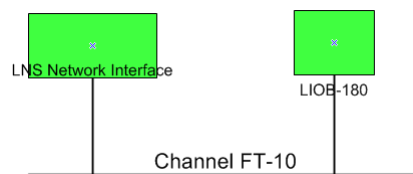

Figure 99: The L-IOB device has been added to the drawing
- Finally, you should get the device added to your drawing as depicted in Figure 99.
This Section describes how to replace a L-IOB device in your LNS database. The example discusses a LIOB-180 but is general to all models. The description refers to LonMaker TE. Let's assume there is a device 'LIOB-180' in the LNS database as shown in Figure 99.